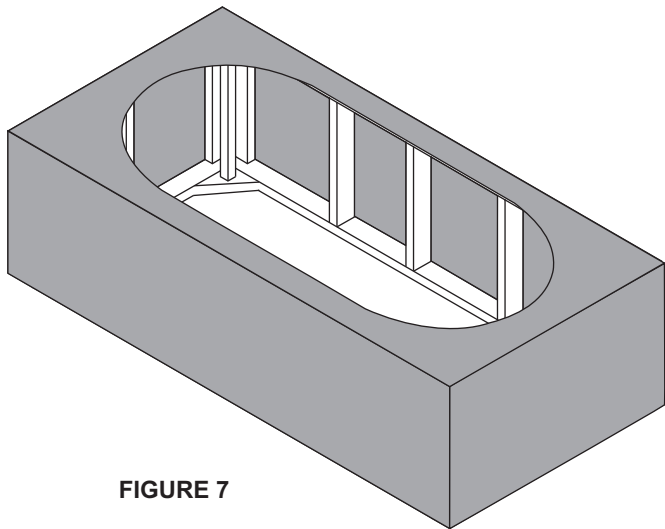

FIGURE 7
- Fix the top board on the framing as shown in figure 7